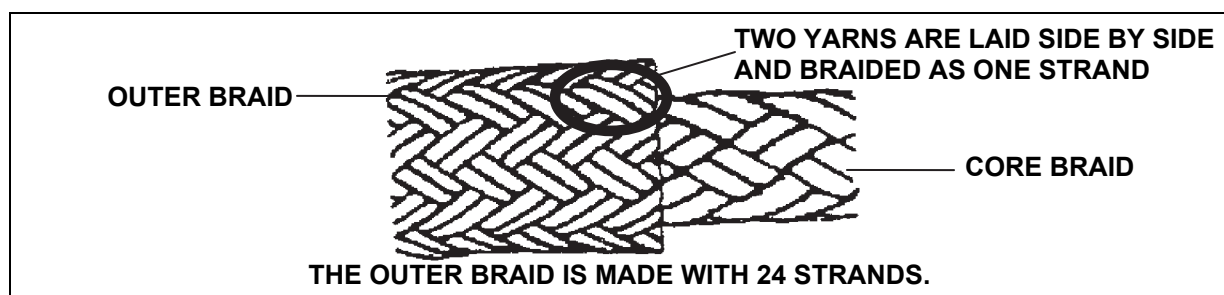

Figure 6-21. Outer Braid and Core Braid of a Sling Leg
- Determining the serviceability of the sling legs is the most difficult and important part of inspecting the sling set. Serious damage or weakening of sling legs can occur without visual damage to the fibers. **Ropes that are known to have been severely overloaded or shock loaded, such as the remaining legs of a sling set after one leg has broken, should be removed from service.** Ropes can also be severely weakened by exposure to certain chemicals. **Ropes with rust stains or stains from a foreign substance should be removed from service.** Each sling leg should be individually inspected for cuts, snags, or worn strands. Pulled strands should be worked back into the rope. The outer braid of the leg is constructed with 24 strands (figure 6-21) which allows for a certain amount of damage as listed in table 6-3. No damage to the core braid is allowed. Some fuzziness on the outer surface of the nylon leg is normal. If surface roughness increases or nylon slivers or splinters are present, remove the leg from service. If any doubt exists as to the condition of the sling leg, remove it from service.